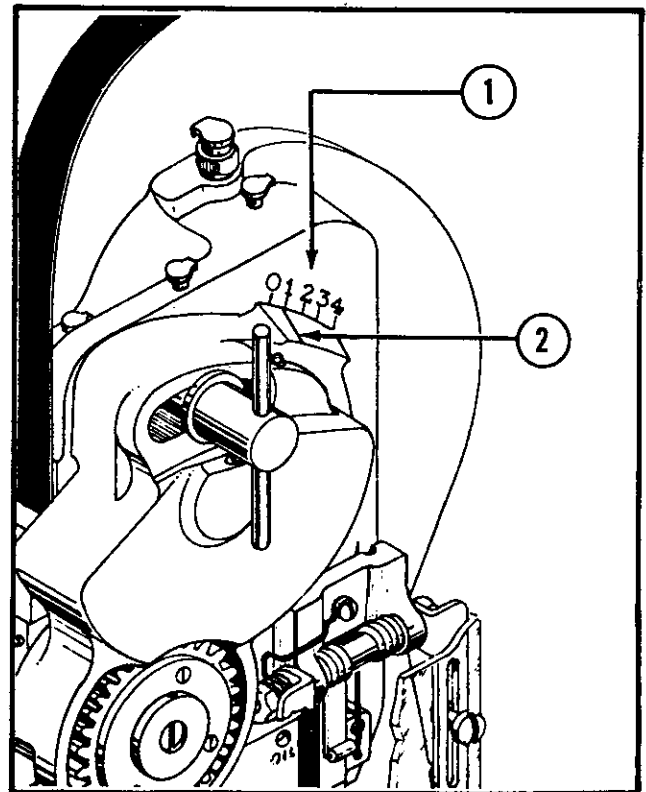

Figure 10—Wire Draw Scale
The short and standard wire draw heads are equipped with a length of wire draw scale, (1) Fig. 10, on the head plate, and an alignment marker (2) on the wire feed guard (If head being operated is the short draw type, there may be two alignment markings on the wire feed guard, in which case use the right hand marking). The scale and marker provide a means of setting the wire draw according to the desired length. On the short wire draw head the "O" scale marking represents $\frac{1}{2}$ " of wire draw; on the standard draw head the "O" marking represents 1" of wire draw. Each of the other graduations in the scale on both heads represent approximately $\frac{1}{8}$ " additional wire draw. Thus, if